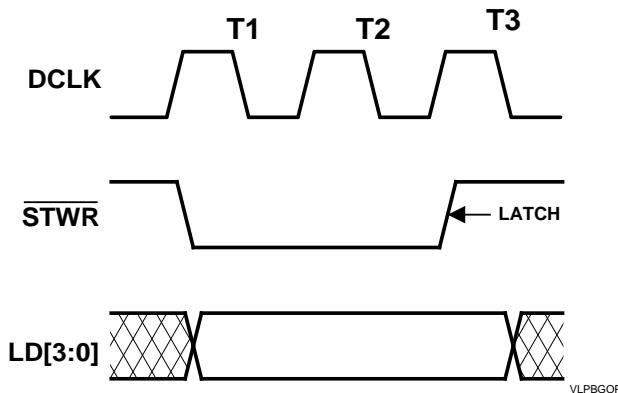

Figure 12-6. General I/O Port Timing (PCI)
5. Write (anything) to CR5C. The data on LD[7:4] are latched 2 DCLKs later into MMFF1C_7-4. (This also drives the contents of MMFF1C_3-0 onto LD[3:0] and generates the STWR pulse on pin 190. The input data is latched on the rising edge of STWR. See Figure 12-6)
5. Write (anything) to **CR5C**. The data in **MMFF1C_3-0** are immediately driven onto **LD[3:0]** and the **STWR** pulse is generated. The rising edge of **STWR** (2 DCLKs after it is asserted) can be used to latch the data into an external device. The data is held valid for 1/2 DCLK after this edge. See Figure 12-6.